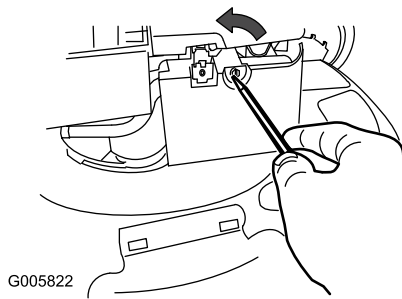

Figure 43
1. Use a screw driver to open the air filter cover (Figure 43).